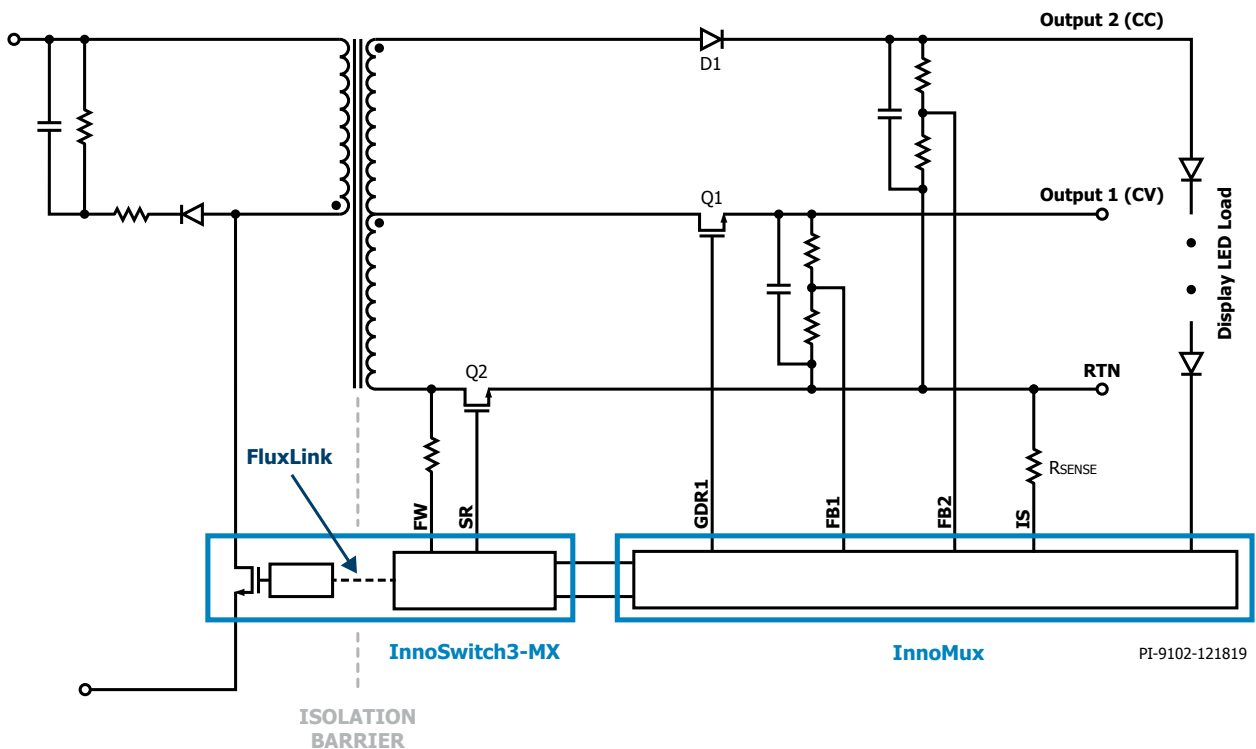

Figure 3 Simplified schematic for an InnoMux based system
One may be tempted to ask: “Since there are obvious benefits, how is this achieved and why has it not been done before?” This can be explained with reference to the simplified system schematic design shown in Figure 3. For ease of explanation only two outputs are shown, although the InnoMux family includes devices capable of simultaneously controlling three outputs which will be described later.
With the ability to transmit such high bandwidth data, the InnoMux technology and capabilities become easier to understand. Based on the output feedback applied to pins FB1, FB2 and IS, the InnoMux control IC continuously monitors each output and makes cycle-by-cycle energy requests to the primary controller using the FluxLink communications link when any output requires additional power. Such requests are determined based on the load conditions of each output. If no energy is required in a particular cycle, no request is made. On cycles where InnoMux determines that energy is required by a specific output, an energy request is made via FluxLink, and the primary switching circuit provides a package of energy to the transformer. The InnoMux controller employs load switches (FETs), such as Q2 in Figure 3, to steer the stored transformer energy to only the output that requires it. The gate drive output (GDR1) uses a proprietary level-shifting technique to allow n-channel (rather than more expensive p-channel) FETs to be used as load switches.
The precise timing involved in multiplexing energy delivery in this way, whilst maintaining fault protection and optimum efficiency, is only possible due to the very high bandwidth of the FluxLink communication channel. The precise timing achieved with FluxLink also enables the use of synchronous rectification (SR) to be employed (Q1 in Figure 3), further enhancing the system efficiency by reducing the voltage drop across the output rectification component.
At first glance, the schematic in Figure 3 looks similar to a traditional multiple output flyback converter—which, of course, is nothing new. In traditional multiple output flybacks however, output voltages are fixed relative to each other through the transformer output winding turns ratio. Drawbacks include poor cross regulation between outputs, where the voltage on heavily-loaded outputs typically droops while the voltages on more lightly loaded outputs tend to increase or ‘peak charge’. Such cross regulation challenges are the precise reason why multi-stage converters using DC-DC converters are often the only option for system designers.
In contrast, the system in Figure 3 employs the concept of ‘energy multiplexing’ (from which InnoMux gets its name). Multiplexing energy delivery to the individual outputs according to their immediate requirements provides precise, independent regulation of each output. In addition, this capability allows some very unique power supply characteristics to be achieved. For example, some outputs can be controlled to provide constant output voltage (CV output 1 in Figure 3) while others can be controlled for constant output current (CC output 2 in Figure 3), for example to control LED display lighting or a battery charging output. A CC load necessitates the voltage of that output to be varied according to the load conditions to maintain constant load current, whereas the CV output voltage must remain fixed. This is achieved through the cycle-by-cycle energy multiplexing, allowing a 2:1 voltage adjustment on the CC output and independent regulation, and even dynamic adjustments, of each individual output voltage / current. This is achieved without impacting regulation on the other output(s). If, for example, the voltage on one output needs to be dynamically-changes during standby or to meet peak load conditions, then this can be implemented by simply changing the resistor divider regulation target for that output. The energy delivery to (and therefore regulation of) the other output(s) is unaffected. These are all examples of capabilities that previously required the use of additional DC-DC post regulation stages to make multiple converters that worked.